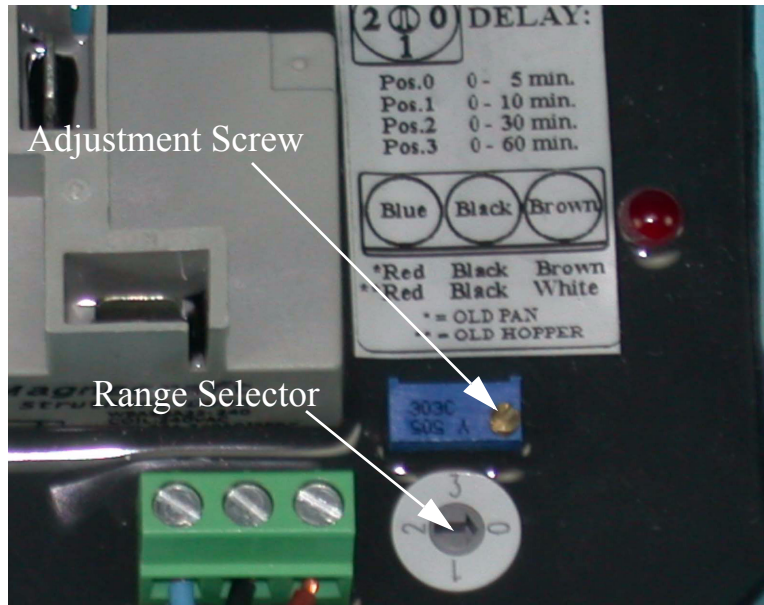

Figure 77. Adjusting the SENSOR PLUS Proximity Switch
To adjust the Time Delay: Refer to **Figure 77**.
1. Insert the Anchor Assembly into the auger until it touches the washer at the back of the anchor. Tighten the setscrews in the center of the anchor until they touch the auger, then tighten a maximum of 1/2 turn. See **Figure 77**.